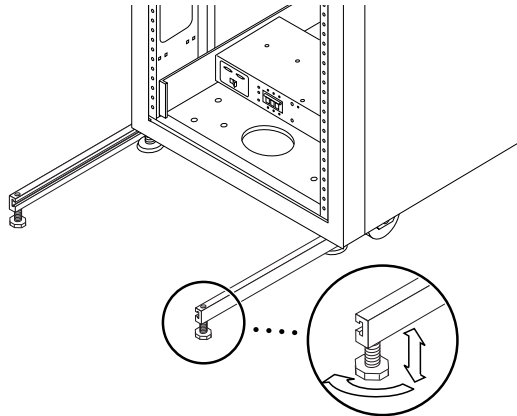

FIGURE 3-4 Adjusting the Leveling Pads on the Stabilizer Leg
6. Use the leveling wrench to adjust the feet on both stabilizer legs so that they touch the floor (FIGURE 3-4).